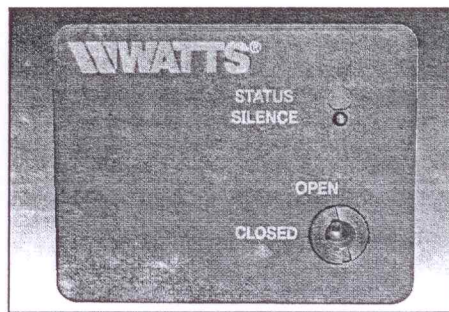

Figure 14
9. Check the position of the valve reset located on the front of the Control Unit. The slots should indicate the valve is in the open position. The 11 o'clock position is the open position. **Figure 13** open position; **Figure 14** closed position.